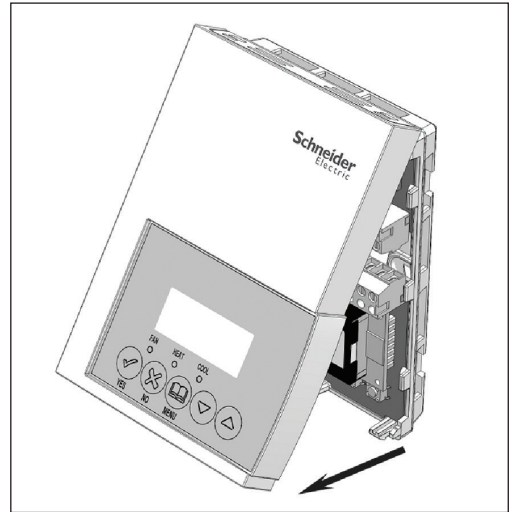

Figure-1 Opening the Cover
- Open unit by pulling on bottom side of Room Controller (Figure-1).